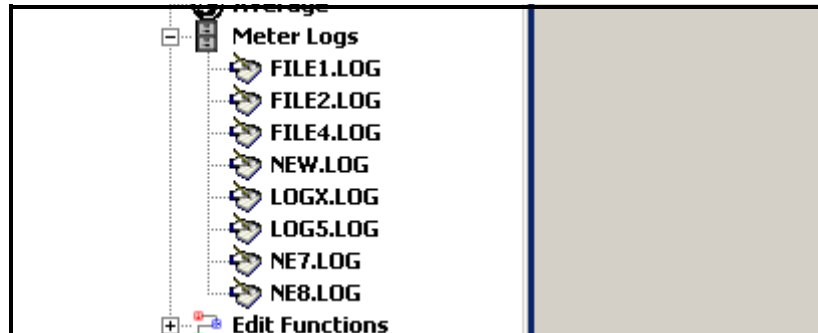

Figure 3-10: Expanded Meter Logs Option
1. From the *New Meter Browser* in PanaView, expand the network tree and click on the *Meter Logs* option. If you have created one or more logs, the tree will appear similar to Figure 3-10 below.